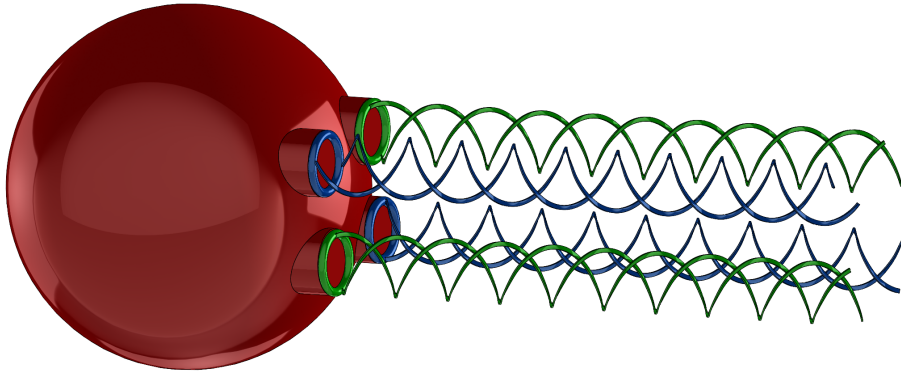

Figure 4: Mechanical Design of Robot Swimmer
1. Mechanical Design of the Components of Robot Swimmer, with Computational Fluid Dynamics (CFD) analysis to validate the design, as shown in Figure 4.